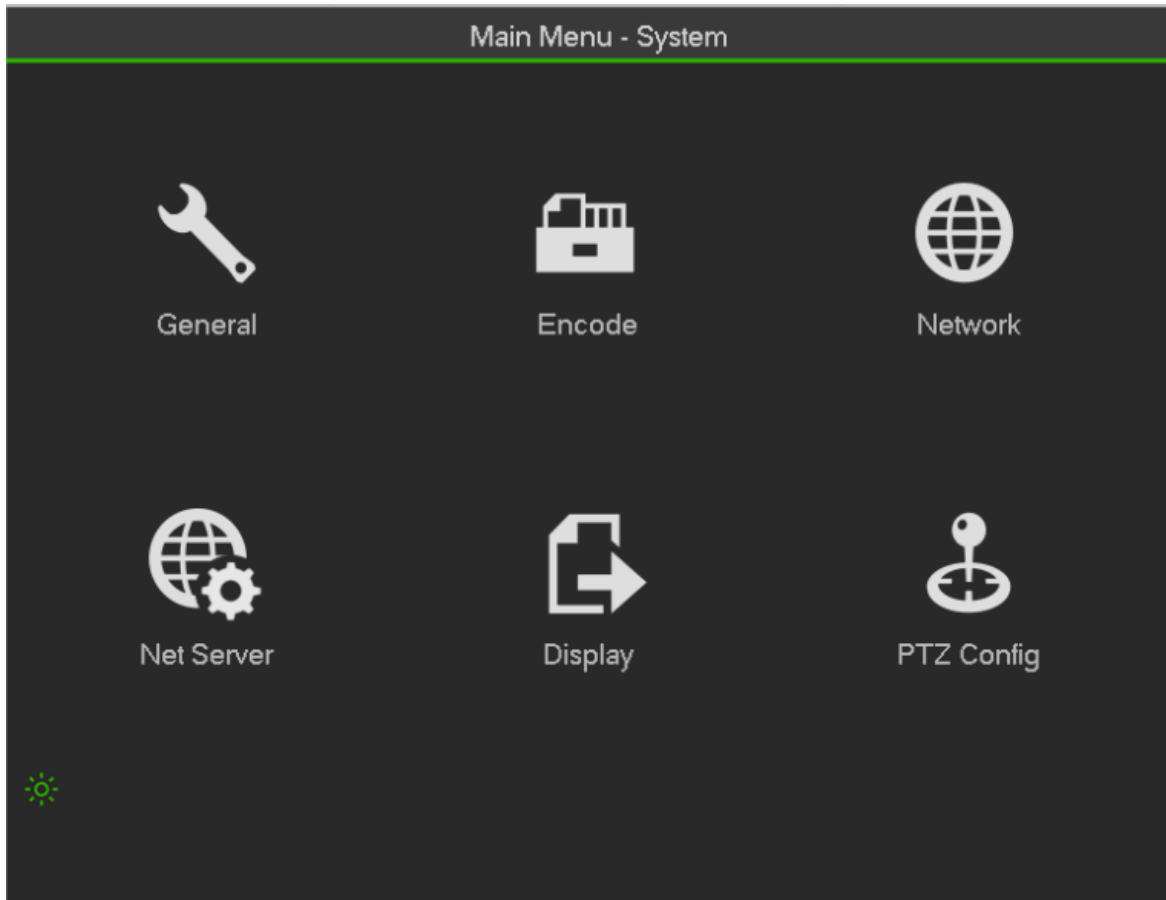

Figure 3-25
- Region: Click select button, the interface is shown as in Figure 3-25. Here you can set motion detection zone. There are four zones for you to set. Please select a zone first and then left drag the mouse to select a zone. The corresponding color zone displays different detection zone. You can click Fn button to switch between the arm mode and disarm mode. In arm mode, you can click the direction buttons to move the green rectangle to set the motion detection zone. After you complete the setup, please click ENTER button to exit current setup. Do remember click save button to save current setup. If you click ESC button to exit the region setup interface system will not save your zone setup.